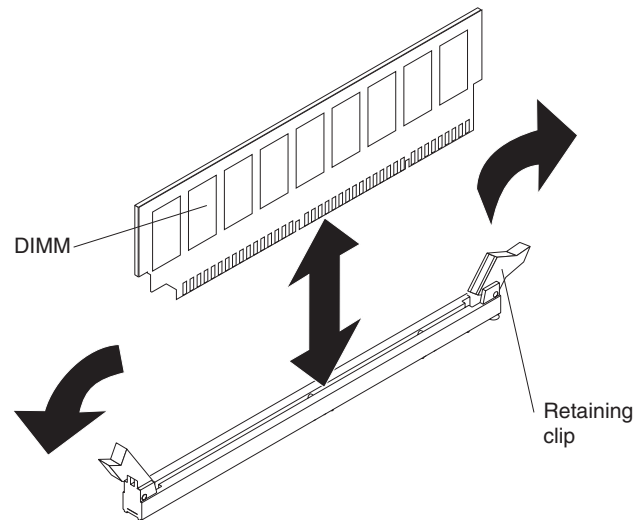

Figure 19. Removing a DIMM
7. Carefully open the retaining clips on each end of the DIMM connector and remove the DIMM (see Figure 19).